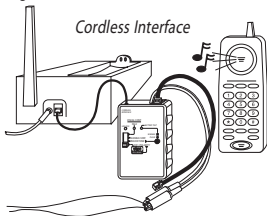

Figure 4
*To use the Cordless Interface, simply plug the Cordless Interface's RJ-11 plug into the base station of the cordless phone to be used (Figure 4). A modular extension cord can be used if the cordless base station cannot be positioned*